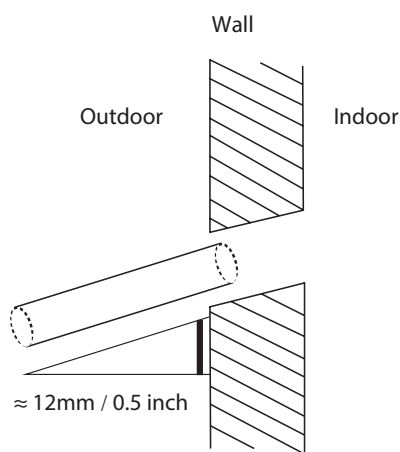

Fig. 5.5
- Using a 65-mm (2.5") core drill, drill a hole in the wall. Make sure that the hole is drilled at a slight downward angle, so that the outdoor end of the hole is lower than the indoor end by about 12mm (0.5"). This will ensure proper water drainage (See Fig. 5.5). Place the protective wall cuff in the hole. This protects the edges of the hole and will help seal it when you finish the installation process.